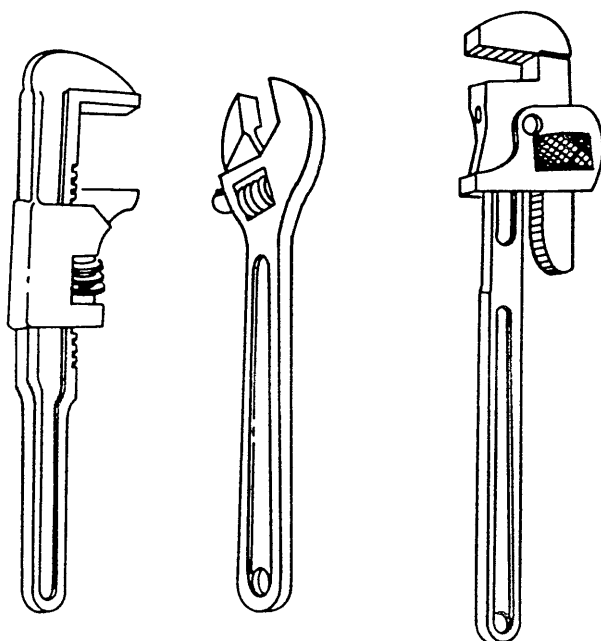

Figure 4-25. Adjustable Wrench
(4) Adjustable wrench. Adjustable wrenches include crescent, auto, and pipe wrenches, shown in figure 4-25. These wrenches are generally intended for use on odd-sized nuts and bolts, and are adjusted by a knurled worn gear, which moves the movable jaw to fit the part. Adjustable wrenches are available in sizes ranging from 4 to 24 inches in length. The jaw capacity is proportional to the handle length.